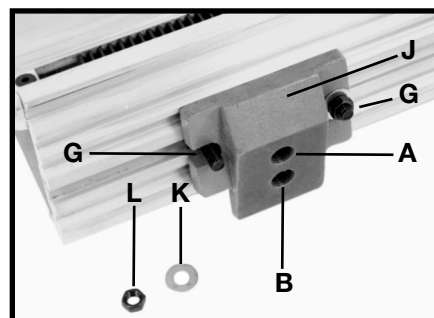

Fig. 24
2. Place mounting pad (J) Fig. 24 between two T-bolts (G) and slide T-bolts inward into slots of mounting pad (J) and fasten with two M10 flat washers (K) and M10 hex nuts (L). **NOTE:** Loosely tighten hardware. **NOTE:** Use top hole of bracket (A) Fig. 24 for Model 46-715 14" lathe only. Use the center hole (B) Fig. 24 for all 16" lathes.